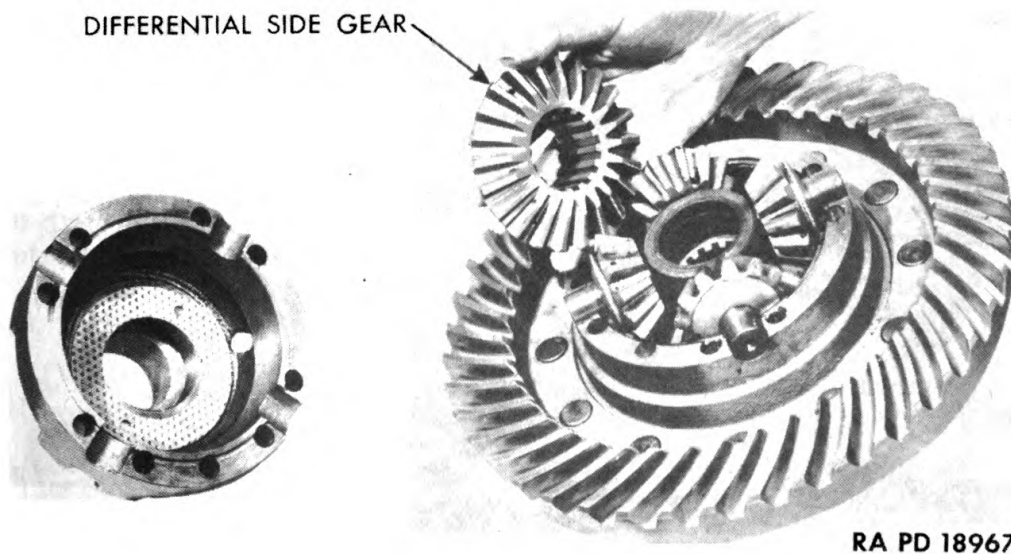

Figure 48 — Removing Differential Side Gear
(5) **REMOVE DIFFERENTIAL SIDE GEAR.** Lift off differential case plain half, and remove side gear and thrust washer (fig. 48).